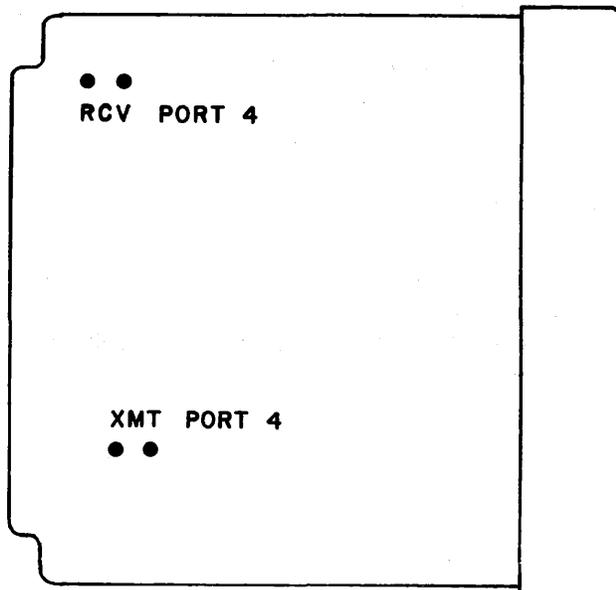

Figure 3. 414 Option Locations
6.01 The 414 module is capable of providing 4-wire/4-way operation. However, the receive and transmit paths of port 4 are equipped with strapping options which permit the module to also function as a 3-way bridge. When optioning the 414 module, refer to Figure 3 (Option Locations) and strap all options in accordance with the following paragraph.